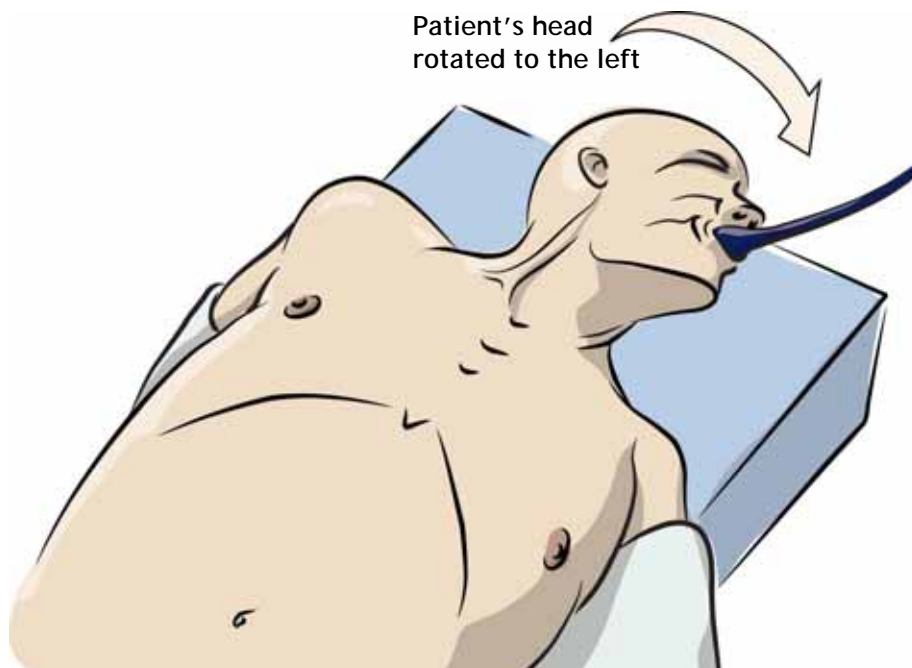

Figure 3: Patient's head positioning and anesthesia set up
- Patient's head rotated to the left side to create more space for 4th arm [Figure 3]